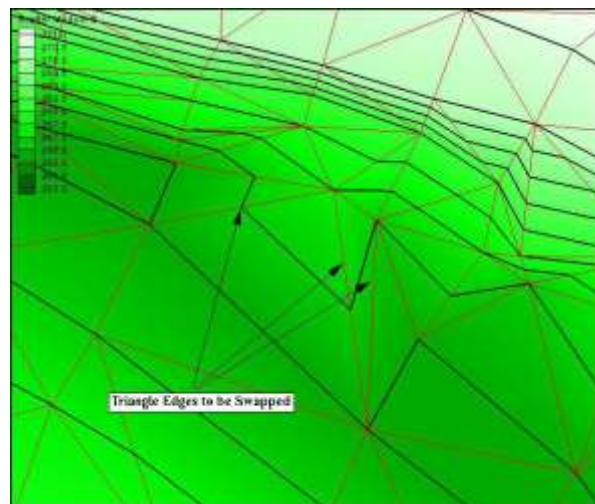
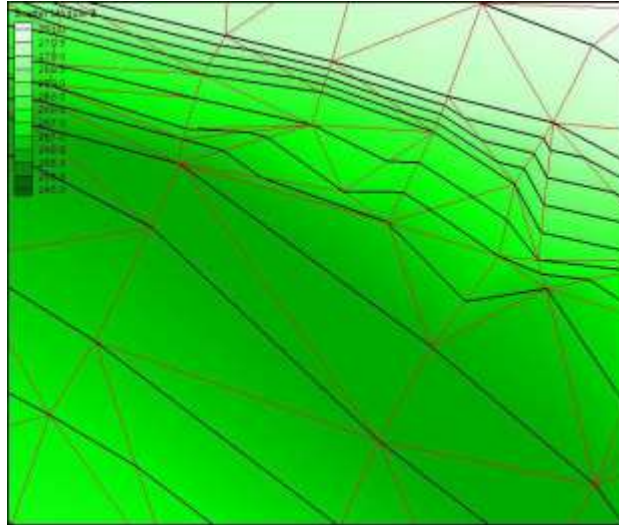

Figure 6 Zoomed out area showing triangle edges to be swapped
Figure 7 Figure showing triangle after edge has been swapped
7. After zooming, the screen should look like Figure 6. Note the linear contour around the edges to be swapped. It is not smooth or straight. In fact, two contours actually converge to a single line. This is possible if a vertical cliff exists, but is not likely in this situation. Natural contours tend to be smooth. A good guideline is to swap edges so that linear contours are smooth.
2. Click on each of the three edges identified in Figure 6. The TIN should be edited to appear like Figure 7. Note how the two contours are now distinct and much smoother.